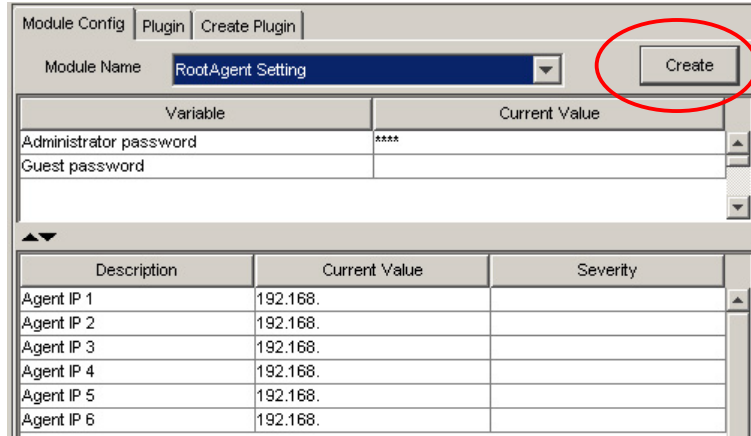
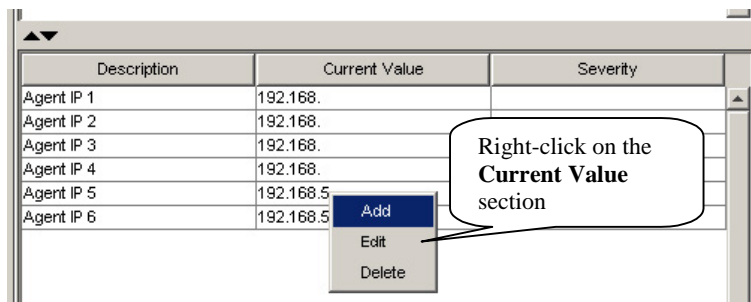

Figure 4-17: Agent List under Root Agent Setting
Figure 4-18: Agent List Right-click Menu
Step 2. To add or delete RAID Agents, click the *Create* button next to the **Root Agent** pull-down list to open an *Add Monitor Controller* window. (See *Figure 4-17*) The same command can also be activated by right-clicking on the agent list under *Current Value* section. (See *Figure 4-18*)